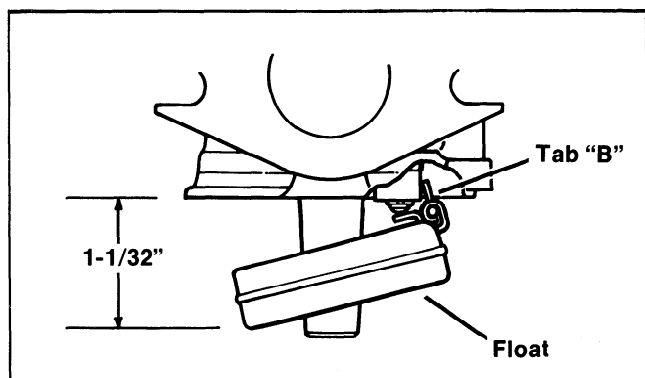

Figure 4-5. Setting Float Drop
3. **Set float drop.** With carburetor in normal operating position, float drop should be limited to $1-1/32$ " between machined surface of casting and free end of float. Adjust by bending float tab “B.” See Figure 4-5.